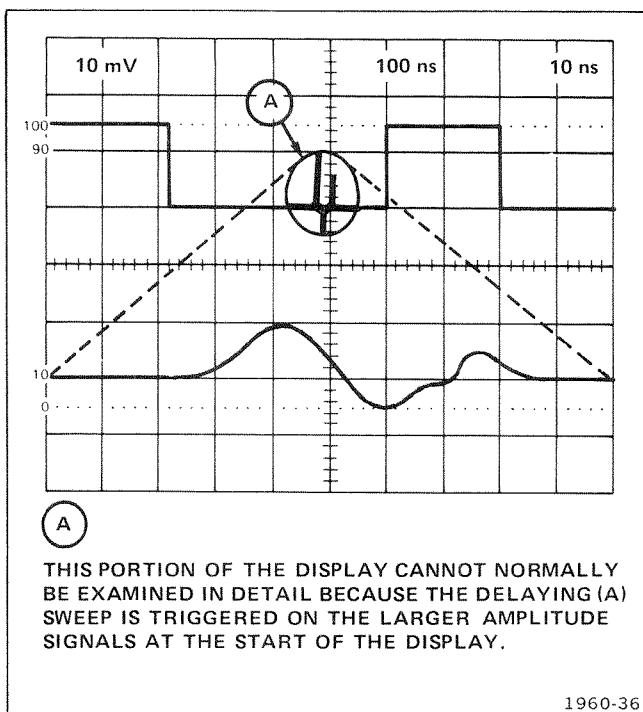

Fig. 1-10. Magnifying a selected segment of the delaying (A) sweep in the delay-time mode with mainframe alternate or chopped horizontal operation.
5. To magnify a selected segment of the delaying (A) sweep waveform and determine apparent magnification in the delay-time mode:
- Set the appropriate triggering, position, deflection-factor, and sweep-rate controls for the desired dual-trace display. See the example in Figure 1-10.
c. Turn the DELAY TIME control to position the intensified zone to the portion of the delaying (A) sweep waveform to be magnified.
d. Set the delayed (B) sweep unit sweep rate to select the desired duration of the magnified display as indicated by the length of the intensified zone.
e. Observe the magnified display on the delayed (B) sweep. See Figure 1-10.
f. Determine apparent magnification by dividing the 7B85 TIME/DIV setting by the delayed (B) sweep unit sweep-rate setting.
Example: The apparent magnification of the delayed (B) sweep shown in Figure 1-10 with a 7B85 TIME/DIV setting of .1 millisecond and a delayed (B) sweep unit sweep-rate setting of 1 microsecond is: